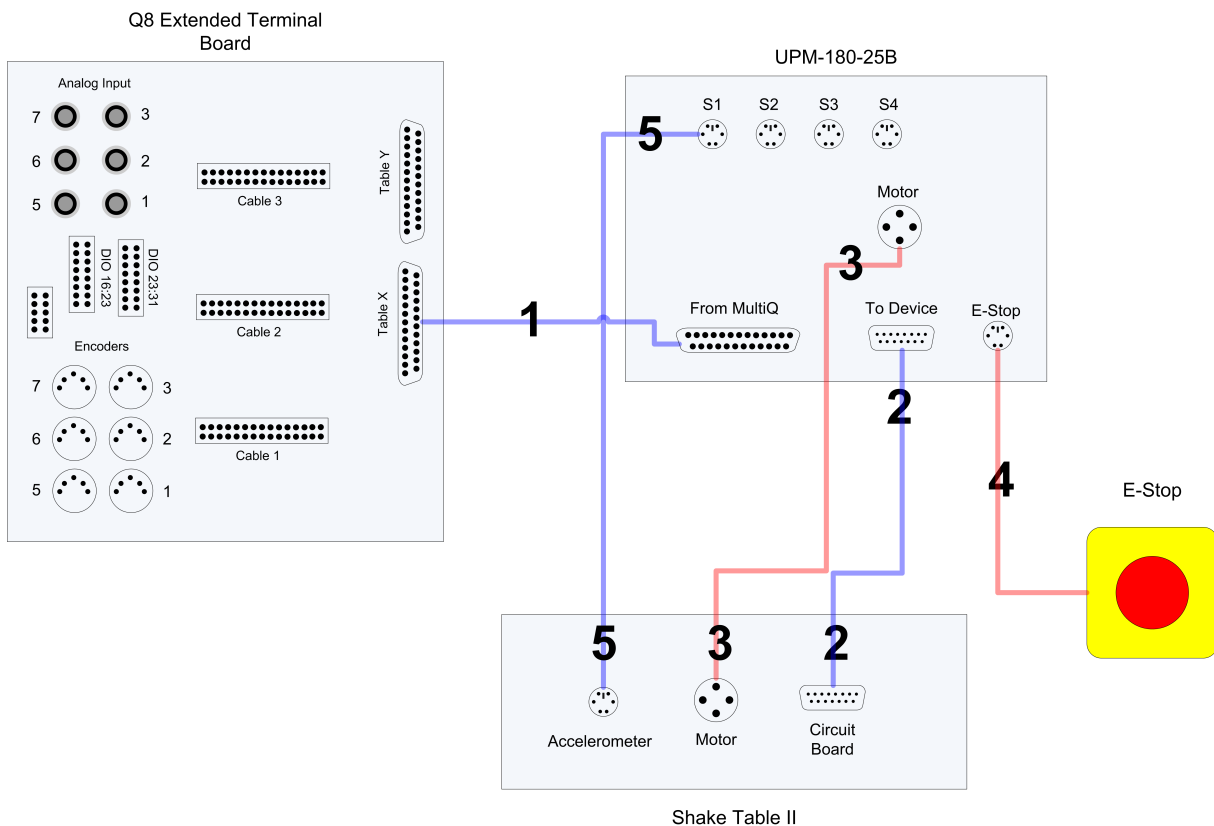

Figure 4.1: Connecting the UPM-180-25B to a Quanser DAQ and Shake Table II
This section describes the connections used to connect the Quanser Q8 Extended Terminal Board to the UPM-180-25B power amplifier and the Quanser Shake Table II system. The connections are summarized in Table 4.2, and pictured in Figure 4.1. Connection details are given below.
1. Connect the DB25 to DB25 cable from the *Table X* connector on the Q8 Extended Terminal Board to the *From MultiQ* connector on the UPM-180-25B, ensuring that the screw locks are fastened at both ends. See connection #1 shown in Figure 4.1. This carries the command signal that controls the output to the motor as well as the three limit switch signals, the motor Hall effect signals, and the motor encoder signals.
2. Connect the DB15 to DB15 cable from the *From Device* connector on the UPM-180-25B to the *To Power Module* connector on the Shake Table II, ensuring that the screw locks are fastened at both ends. See connection #2 shown in Figure 4.1. This cable carries the three limit switch signals, the motor Hall effect signals, and the motor encoder signals.
3. Connect the 4-pin-Amphenol to 4-pin-Amphenol motor cable from the *To Load* connector on the UPM-180-25B to the Shake Table II motor connector. See connection #3 shown in Figure 4.1. This cable connects the output of the UPM-180-25B to the Shake Table II motor.
4. Connect the Emergency Stop (E-Stop) button to the *E-Stop* connector on the UPM-180-25B. See connection #4 shown in Figure 4.1.
5. Connect the 6-pin-mini-DIN to 6-pin-mini-DIN cable from the *S1* connector on the UPM-180-25B to the accelerometer connector on the side of the Shake Table II. This connection is labeled #5 in Figure 4.1.